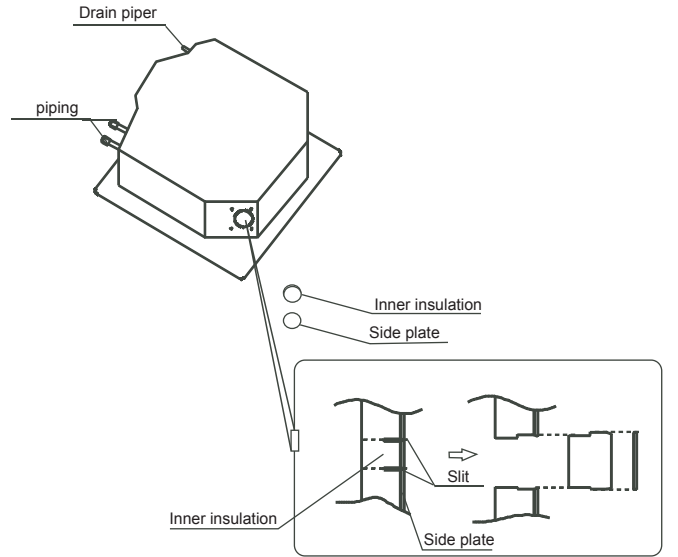

Fig.5-4
- Cut the inner insulation of the hole portion with a cutter. (Refer to Fig.5-4)